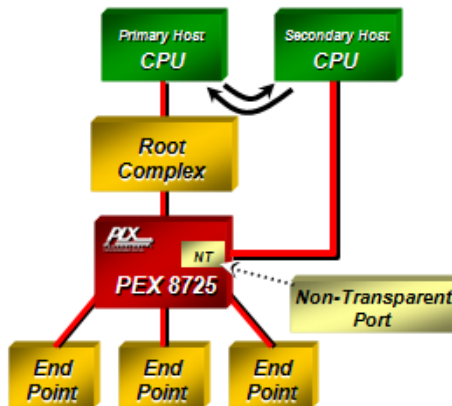

Figure 3. Non-Transparent Port
In Single-Host mode, the PEX8725 supports 2 **Non-Transparent (NT) Ports**, which enables the implementation of **dual-host systems** for redundancy and host failover capability. The NT port allows systems to isolate host memory domains by presenting the processor subsystem as an endpoint rather than another memory system. Base address registers are used to translate addresses; doorbell registers are used to send interrupts between the address domains; and scratchpad registers (accessible by both CPUs) allow inter-processor communication (see Figure 3).